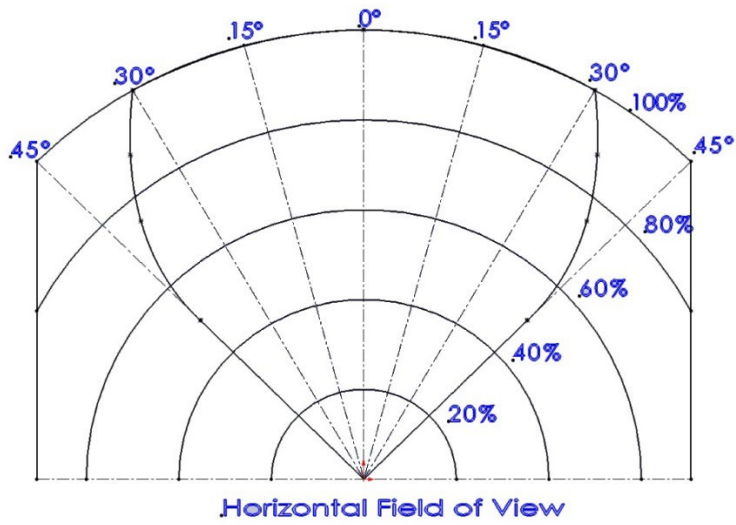
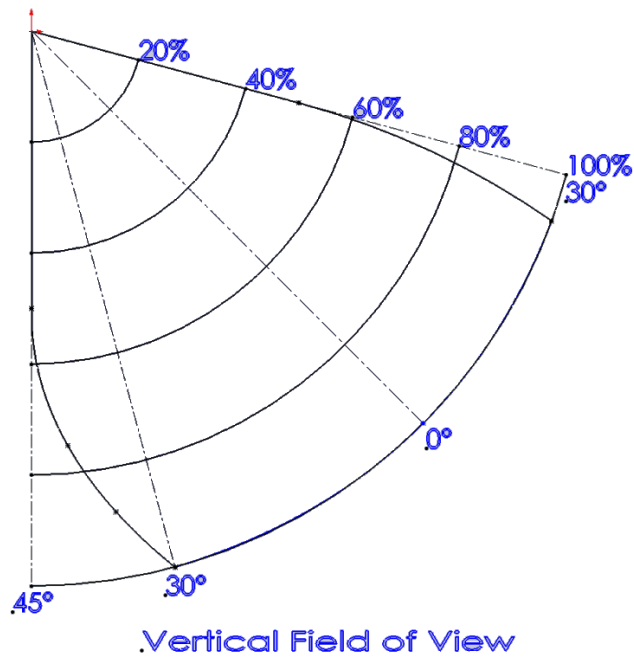

FIGURE 9 - HORIZONTAL FIELD OF VIEW
FIGURE 10 - VERTICAL FIELD OF VIEW
| Figure 9 - Horizontal Field of View | 8 |
| Figure 10 - Vertical Field of View | 8 |
- The field of view of the detectors (See Figure 9 and Figure 10)